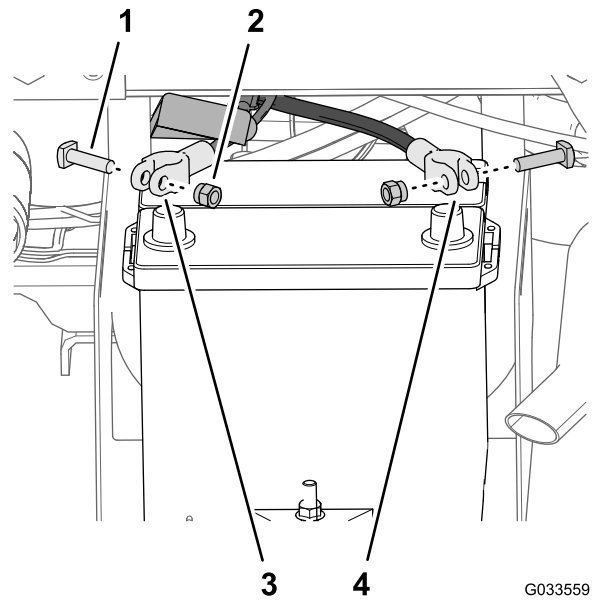

Figure 25
1. Remove the nuts and T-bolts at the clamps of the positive and negative battery cables (Figure 25).